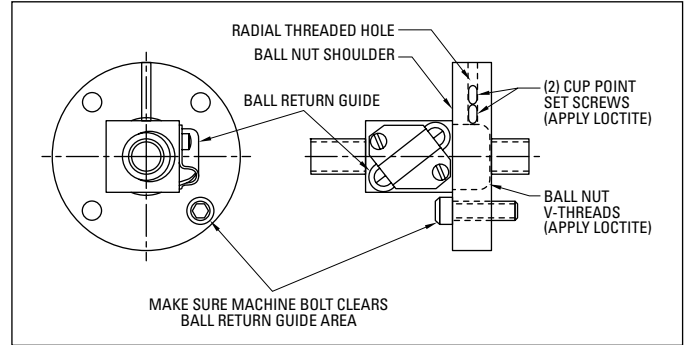

Figure 2
3. Loosen the flange until the required machine bolts can be inserted into the flange mounting holes without interfering with the ball return guides (see Figure 2).
5. Select a cup point set screw with a length of one half the threaded hole depth. Install two set screws, tightening to the manufacturer's recommended torque (see Figure 2).